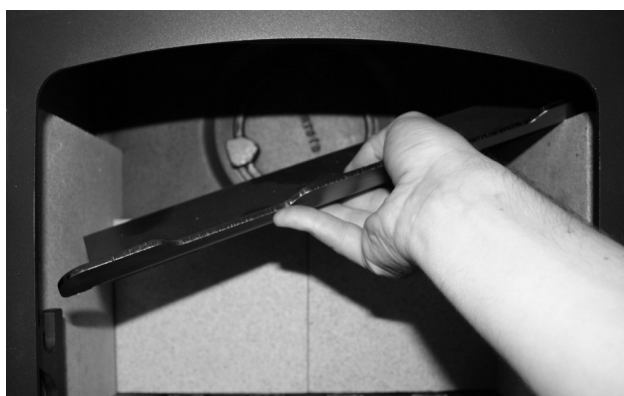

Fig. 4. Inserting The Throat Plate
- Fit the throat plate with the single bend and two cut outs to the front facing up. The projecting lugs sit on top of the side liners. The long centre tab on the back edge rests on the rear liners. The shorter turn down tabs against the vertical face. (See Fig.4 & 5)